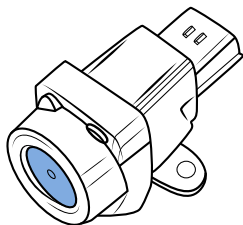

Figure 12 - Impact detector
2. Locate the impact detector on the firewall and press the button (Figures 12 and 13).